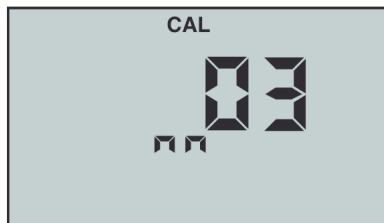

Figure 14
7. Press $\frac{CAL}{MCLR}$ to accept the change (new month), (see Figure 14).